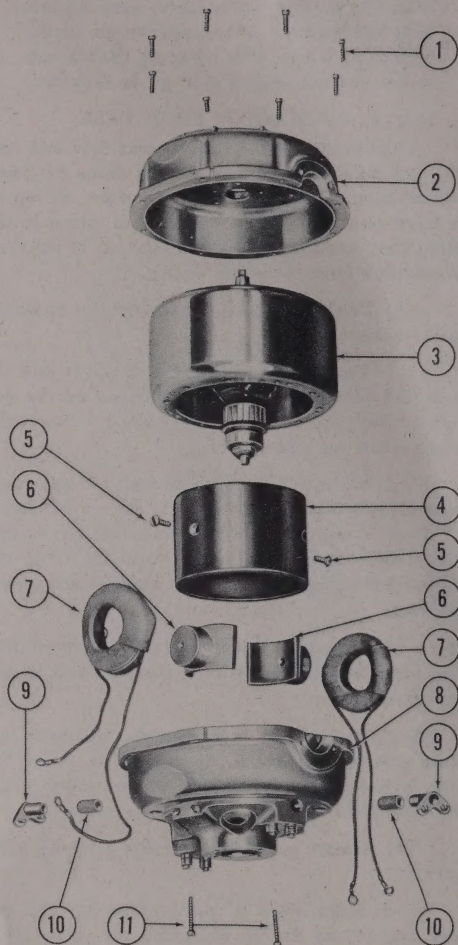

Figure 179 — Rotor and Case Assembly, Exploded View
1. (See figure 179.) Remove the eight fillister-head screws (1) holding the two halves (2 and 8) of the rotor case together.
(e) (See figure 179.) Remove rotor assembly from the case.
(13) REMOVE AND DISASSEMBLE FIELD ASSEMBLY. (*See figure 179.*)